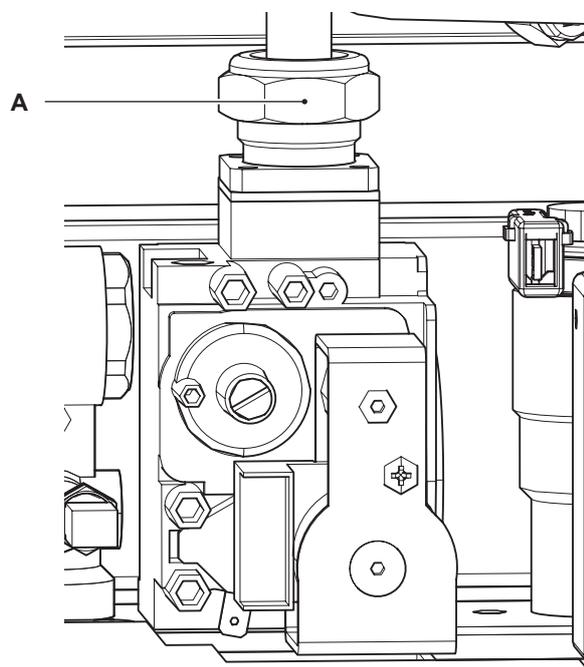

Figure 16.1
- Unscrew the connector A to the gas pipe (Figure 16.1).
the gas circuit check all the connections for gas tightness (Figure 16.1).